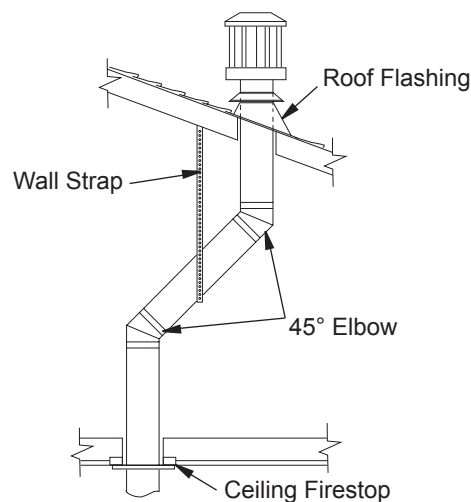

Figure 19 - Offset with Wall Strap and 45° Elbows
1. Determine the route your vertical venting will take. If ceiling joists, roof rafters or other framing will obstruct the venting system, consider an offset (see Figure 19) to avoid cutting load bearing members. **Note:** Pay special attention to these installation instructions for required clearances (air space) to combustibles when passing through ceilings, walls, roofs, enclosures, attic rafters, etc. Do not pack air spaces with insulation. Also note maximum vertical rise of the venting system and any maximum horizontal offset limitations.
Note: If an offset is needed to avoid obstructions, you must support the vent pipe every 3 feet. Use wall straps for this purpose (see Figure 19, page 12). Whenever possible, use 45° elbows instead of 90° elbows. The 45° elbow offers less restriction to the flow of the flue gases and intake air.
5. Place the flashing over the pipe section(s) extending through the roof. Secure the base of the flashing to the roof and framing with roofing nails. Be sure roofing material overlaps the top edge of the flashing as shown in Figure 19, page 12. There must be a 1" clearance from the vent pipe to combustible materials.